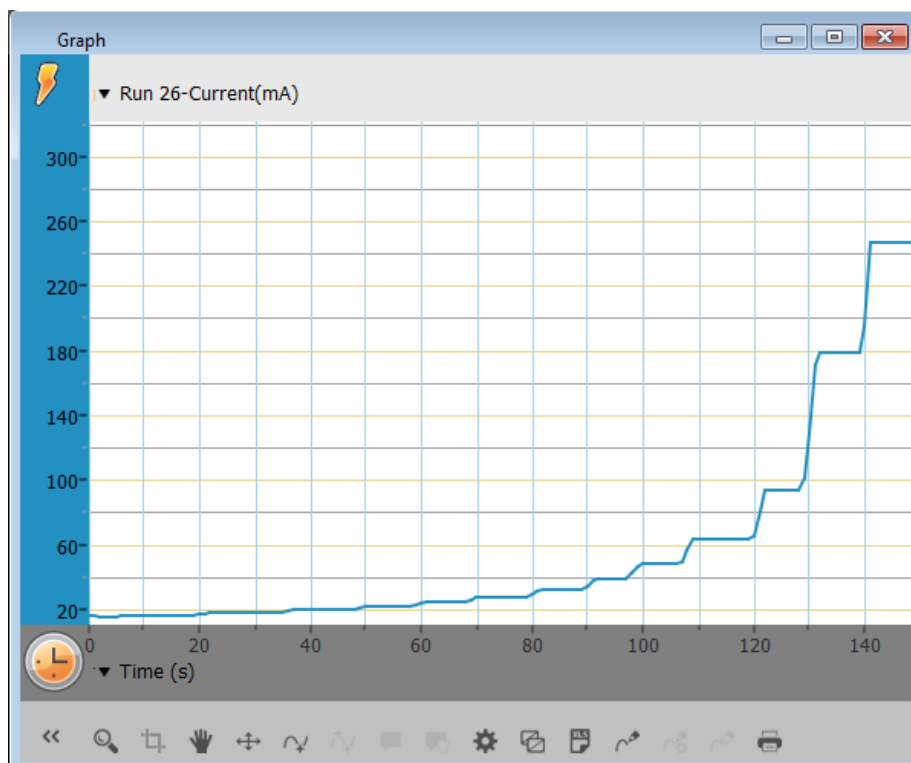

Figure 1
5. See the expected results - Figure 1.